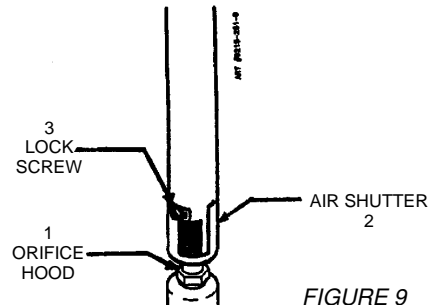

FIGURE 9
- Yellow flame on burner - open burner air shutter to the widest opening that will not cause the flame to lift or blow off the burner when cold. (See #2 on figure 9.)
- Distinct blue flame but lifting - close burner air shutter to the point where it will not cause the flame to lift or blow off the burner when cold. (See #2 on figure 9.)